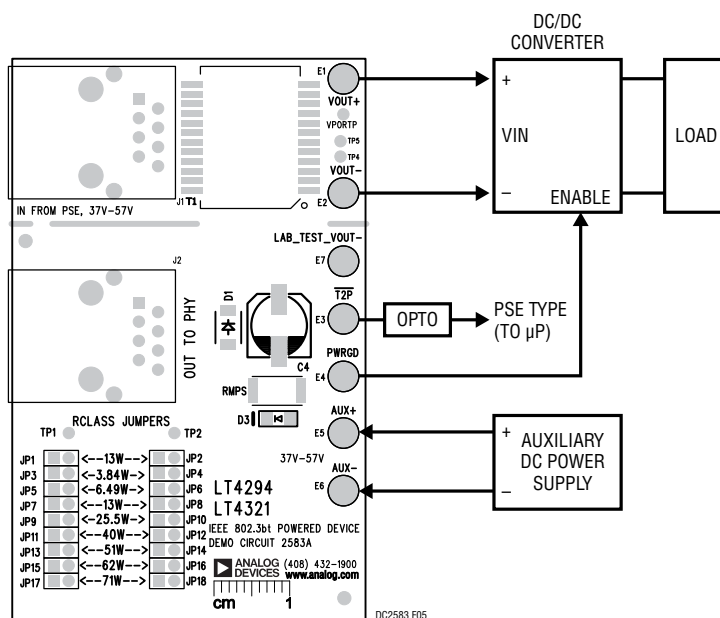

Figure 5. Setup Diagram for Auxiliary Supply Input
1. Place and connect test equipment as shown in Figure 5.
3. Connect the output of the auxiliary supply to the DC2583A as shown in Figure 5. Turn on the auxiliary supply and set its current limit to 2A. Then increase its output voltage to 48V.
5. Verify  $\overline{T2P}$  response with an oscilloscope as shown in Figure 5. The  $\overline{T2P}$  response during auxiliary power operation is provided in Table 3.